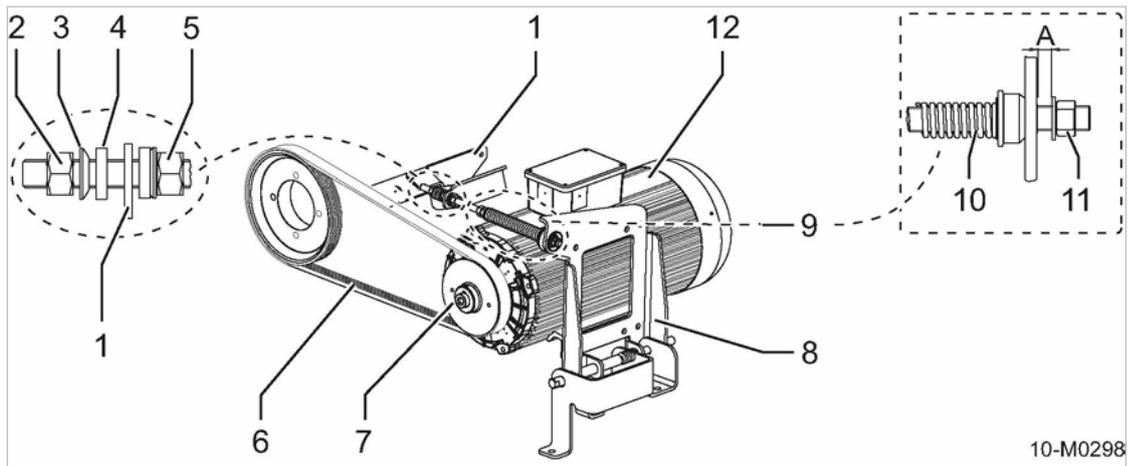

Fig. 80 Tighten the generator drive belt
The tensioning device uses spring force to apply correct tension to the belts over a certain range. The tensioning dimension (A) is controlled by adjusting the belt (see fig. 80).